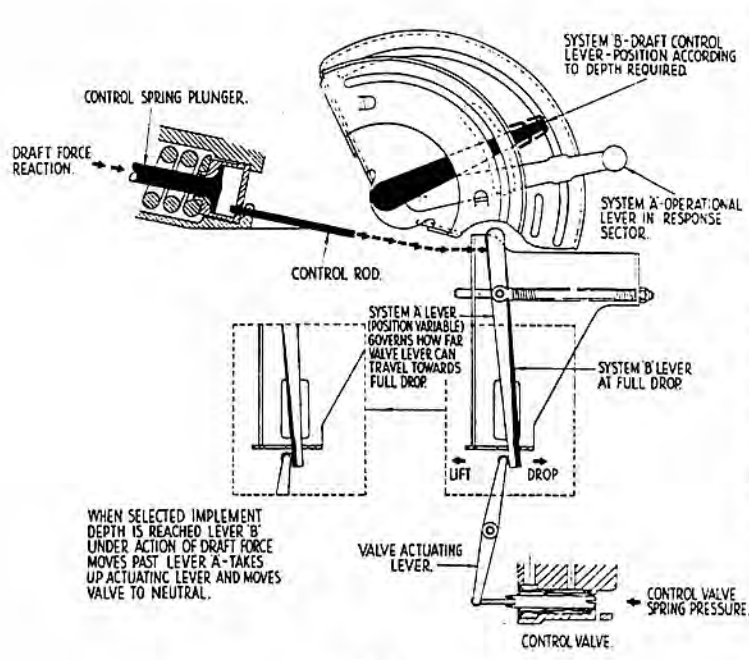

FIG. 21
- (i) DRAFT CONTROL (Fig. 21)
SYSTEM A. The **Operational Lever** must be out of the position control range so that the cam on the lift shaft has no influence on the position of the control valve. The **Operational Lever** will, therefore, be in the "Response" sector of its quadrant as required, and then System A Lever (Fig. 21), as already explained, becomes an adjustable stop regulating how far the valve actuating lever can move the control valve into the drop position, thereby establishing the rate of fall. See 'Rate of Response' opposite.
The **Draft Control Lever** must therefore be moved forwards from the Sector Marks setting to move the control rod away from the control spring plunger, refer to (Fig. 21). The gap